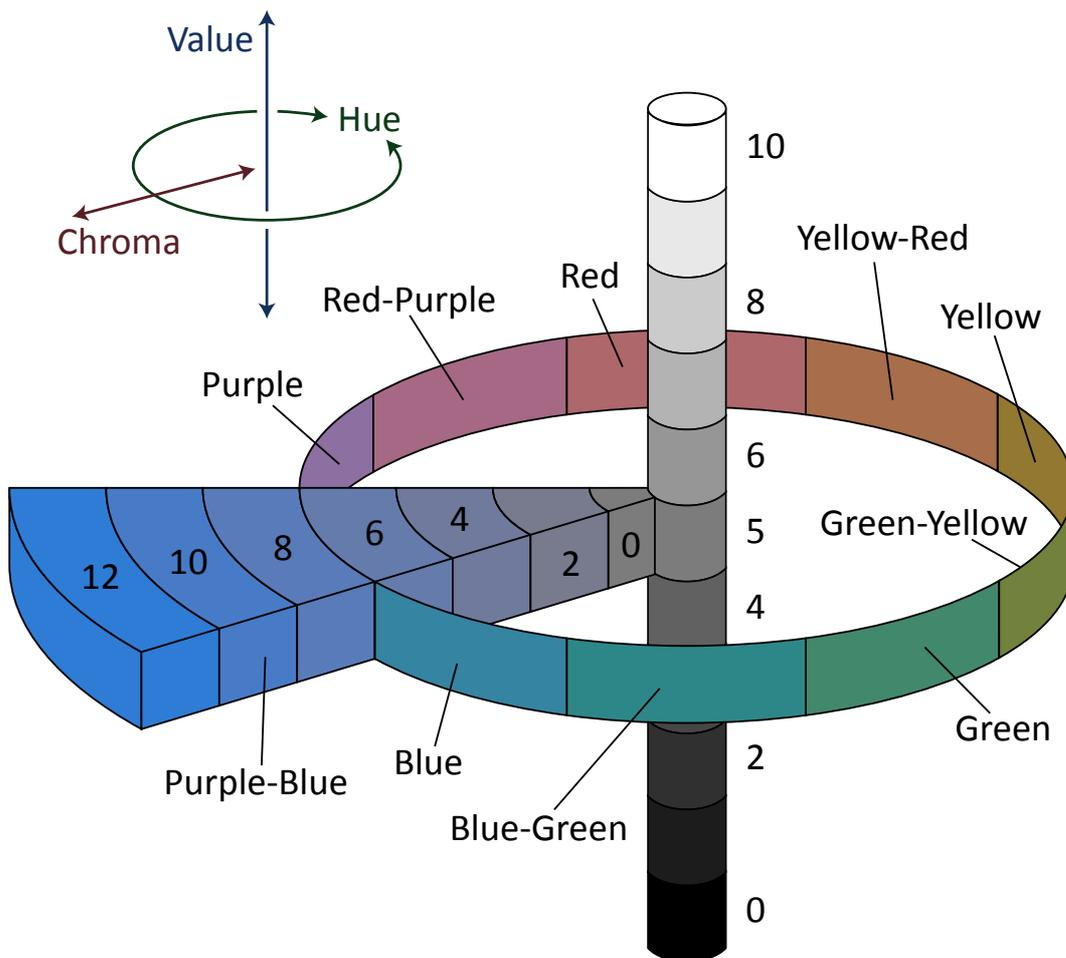

Figure 9-1. The Munsell Colour System.
As a result of all the factors affecting colour it can be very difficult to quantify. Various people have devised methods, often using complex formulas, for quantifying color and expressing it numerically. These methods attempt to provide a way of expressing colors numerically in the same way that length or weight might be expressed. For example, in 1905 the American artist A. H. Munsell devised a method for expressing colors which utilised a great number of paper color chips classified according to their hue (Munsell Hue), lightness (Munsell Value), and saturation (Munsell Chroma) for visual comparison with a specimen color. Later, after a variety of further experiments, this system was updated to create the Munsell Renotation System, which is the Munsell system presently in use (see Figure 9-1). In this system, any given color is expressed as a letter/number combination (H V/C) in terms of its hue (H), value (V), and chroma (C) as visually evaluated using the Munsell Colour Charts.